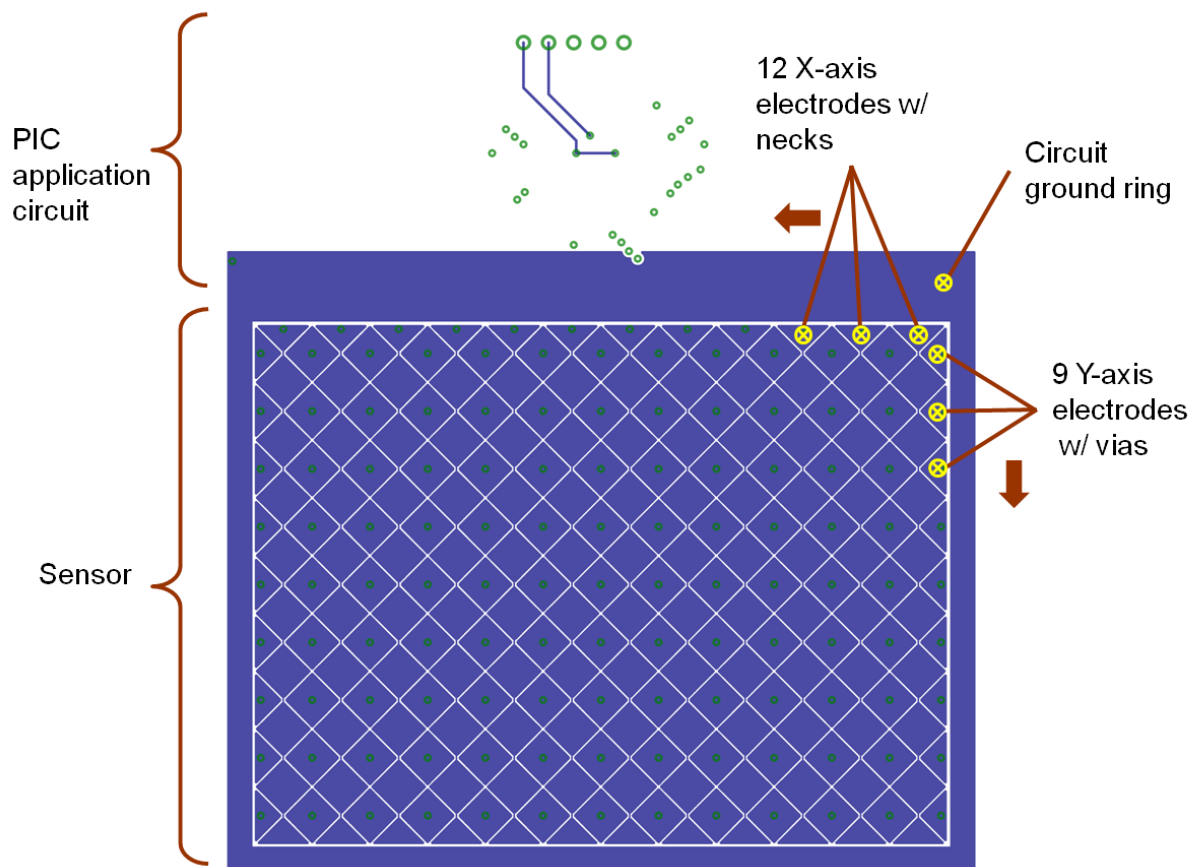

Figure 11 : PCB Example – Bottom Layer Copper
- Figure 11 : PCB Example – Bottom Layer Copper.....11*